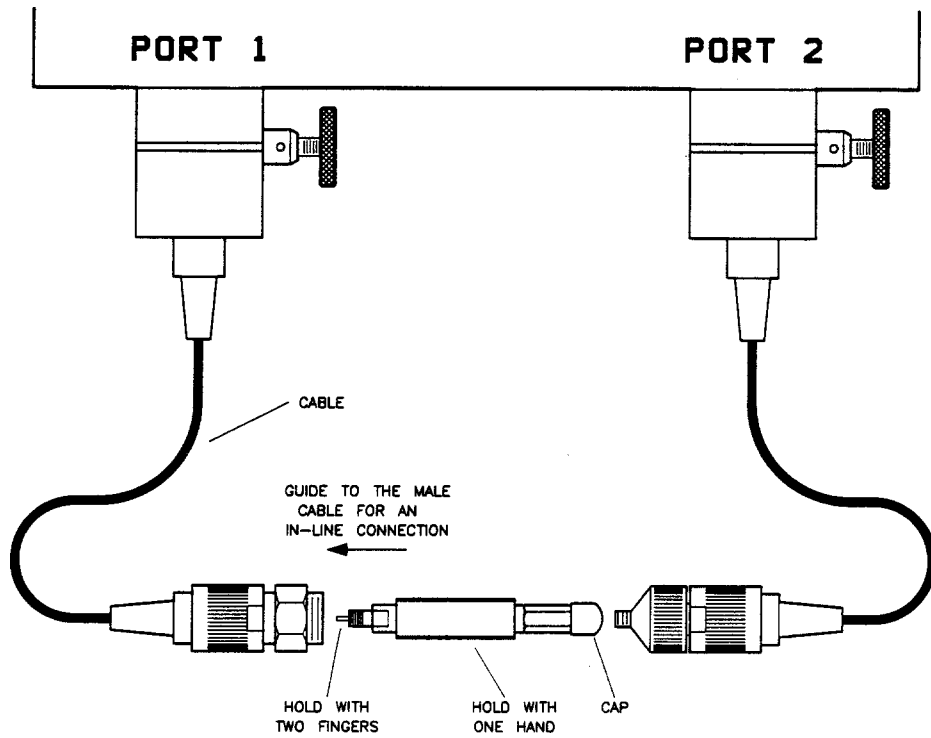

Figure 4-7. Aligning the Center Conductor
4. Hold the airline and center conductor Figure 4-7 and bring the outer and center conductor to the cable connector. Mate the end of the airline center conductor with the center conductor of the cable connector.